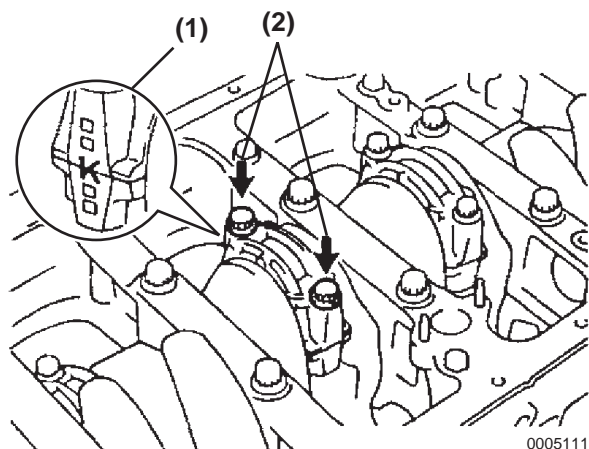

Figure 5-81
Note: Before removing the connecting rod caps, check the match marks **(Figure 5-81, (1))** on the connecting rod and cap to confirm that they match for reassembly.
4. To check connecting rod oil clearance, remove the two connecting rod cap bolts **(Figure 5-81, (2))**.